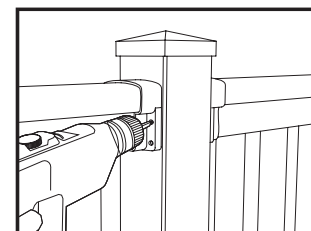

Fig. 5
9. Center top rail over bottom rail and mount brackets onto post or mounting surface. Attach brackets with provided 2 1/2" screws. (FIG.5)